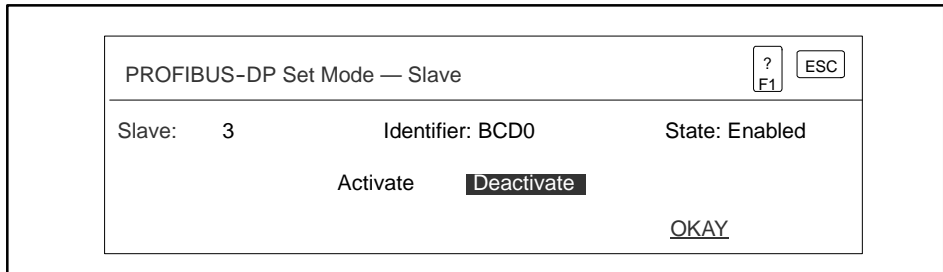

Figure 9-20 Setting the Slave Mode
5. Enter the slave address on the PROFIBUS network in the Slave field, and press **Enter** twice. The PROFIBUS-DP Set Mode — Slave dialog box appears (Figure 9-20).